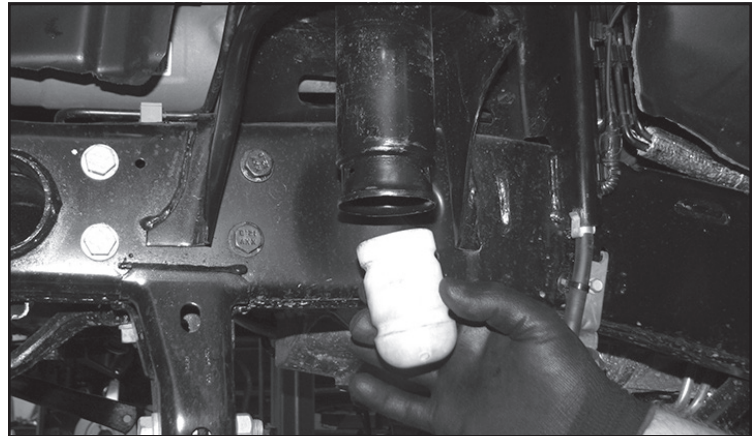

FIGURE 10 - STEP 9
9. Remove the factory foam bumpstops and save. **SEE FIGURE 10**